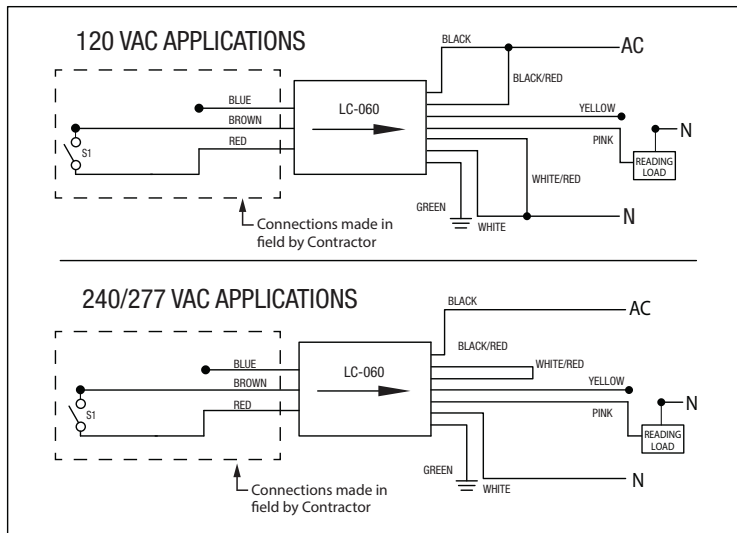

Figure 9: LVC1- Independent control of reading mode with one SPST momentary switch
2. If a Low Voltage Controller (LVC) is present, locate the low voltage switching wires of the in-fixture device and terminate to corresponding wiring of the nurse call system (supplied by others). Refer to **Figures 9–19** in Section E for more details on how to connect the LVC option to the nurse call system.
Locate the wiring diagram in Figures 9–19 that matches the selected LVC option. Make the connections shown on the low voltage switch wires within the dashed lines. **DO NOT ALTER THE WIRING OF THE LOAD AND/OR DIMMING LEADS IN THE FIXTURE.**